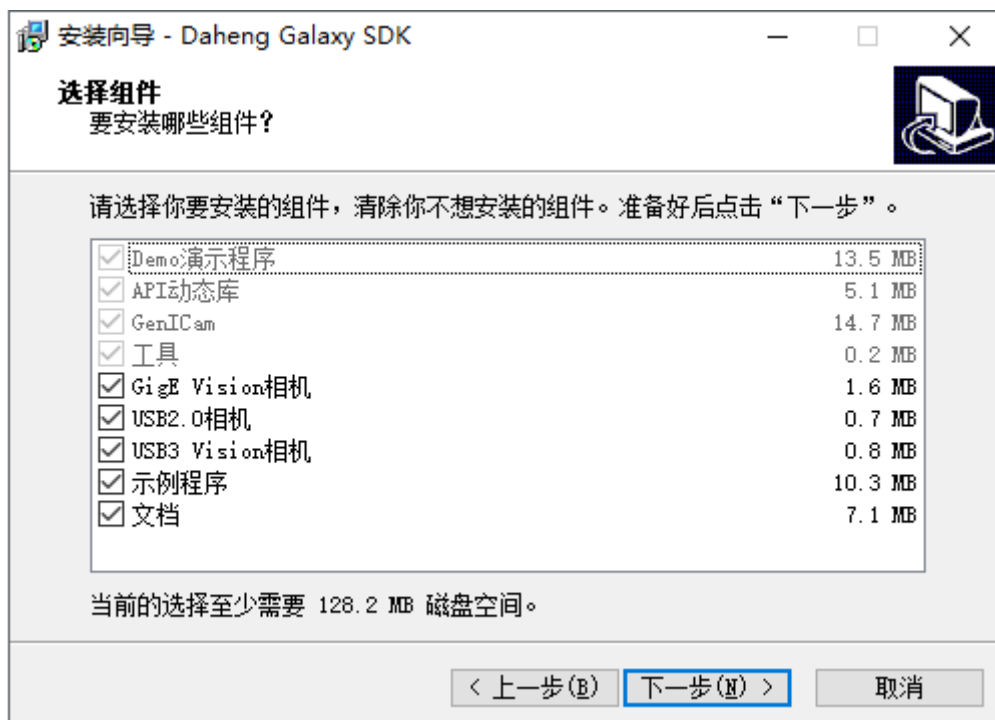

Figure 2.2-16
(18) Click “下一步” proceed with the installation and select the components you need to install. As shown in Figure 2.2-16: